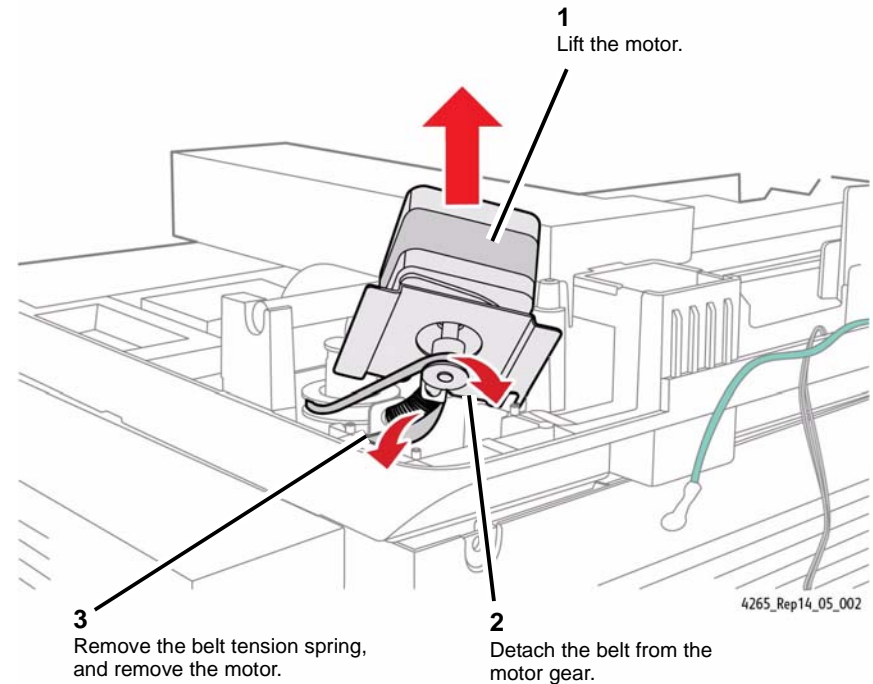

Figure 2 Removing the Scanner Motor
3. Remove the Scanner Motor (Figure 2).